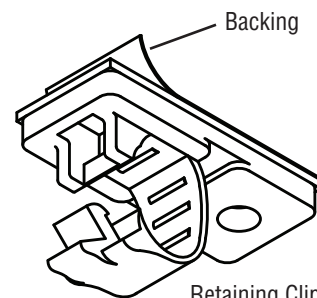

Fig. 5
- 5) Peel backing off retaining clip(s) and affix to desired location(s). Surface should be as clean as possible. Drive pre-installed screw into the cabinet surface to secure the retaining clip to the surface. (See Fig. 5)